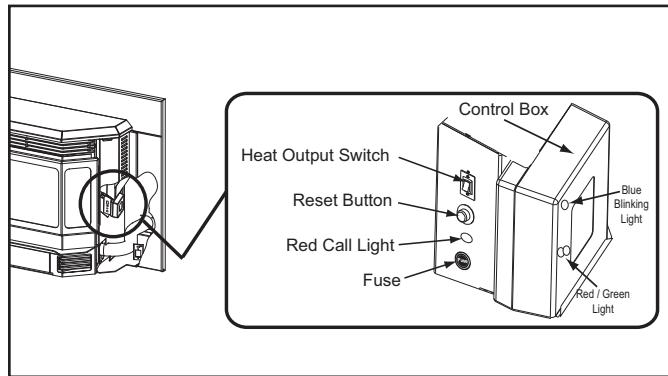

Figure 27.1
The appliance is like most modern furnaces; when the thermostat calls for heat, your appliance will automatically light and deliver heat. When the room is up to temperature and the thermostat is satisfied, the red call light will shut off and the appliance will shut down. **Figure 27.1.**
- Locate the heat output control switch on the right side behind the right side panel. Set to the HIGH setting and then adjust the thermostat to its highest setting. The red call light will be on which is located on the right side behind the right side panel. This indicates the thermostat is calling for heat. **Figure 27.1.**